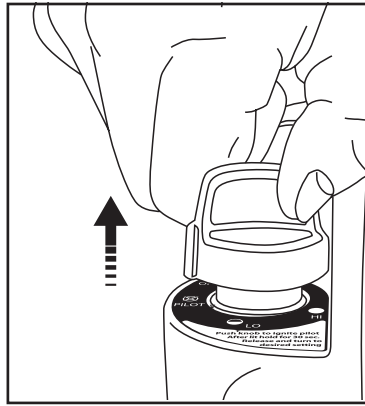

Figure 4: Release knob.
- After pilot lights, hold down for 30 -60 seconds and then release knob. Knob should return to fully extended position; see Figure 4. To operate heater slightly depress knob and gently turn to lock in the "HI" position to light
- After pilot lights, hold down for 30 -60 seconds and then release knob. Knob should return to fully extended position; see Figure 4. The pilot should remain lit. To operate heater slightly depress knob and gently turn to lock in the "HI" position to light burner tile. Leave on "HI" position until burner tile turns bright orange.